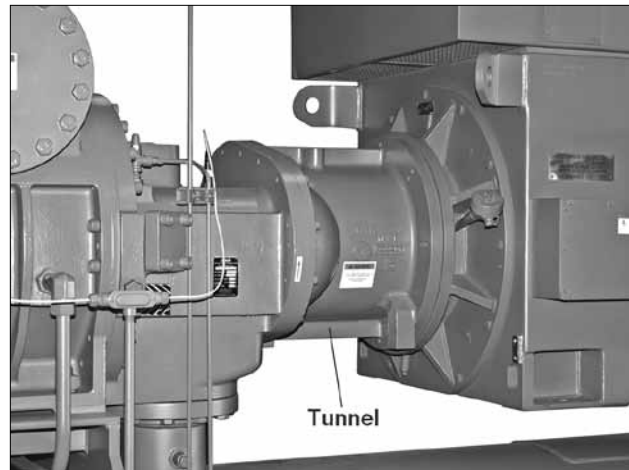
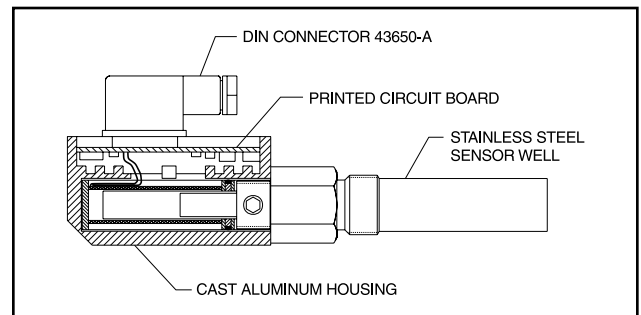

Figure 6 - SGC Compressor with Tunnel Mount
Figure 7 - Slide Stop Transmitter
The slide stop transmitter (Figure 7) measures the position of the slide stop (SS) using a 20 to 4 mA signal to cover the range of minimum to maximum VI. The signal is sent to your control system so that it can adjust the position of SS according to system pressures. The correct SS position is important to achieve the most efficient compressor operation. Connect to +/- and signal as show in the wiring diagram in Figure 6. Refer to Frick compressor panel instructions 090.040-O for calibration procedure.